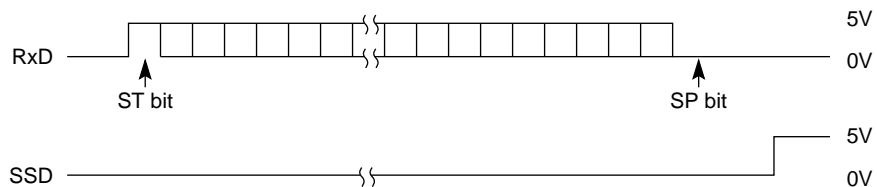

Figure B-7
• Yes Is the RxD of Q3 as specified in Figure B-7?
② In receiving by serial interface, printing data is omitted or printing operation is not performed.
• Are RxD and SSD of Q3 as specified in Figure B-7?